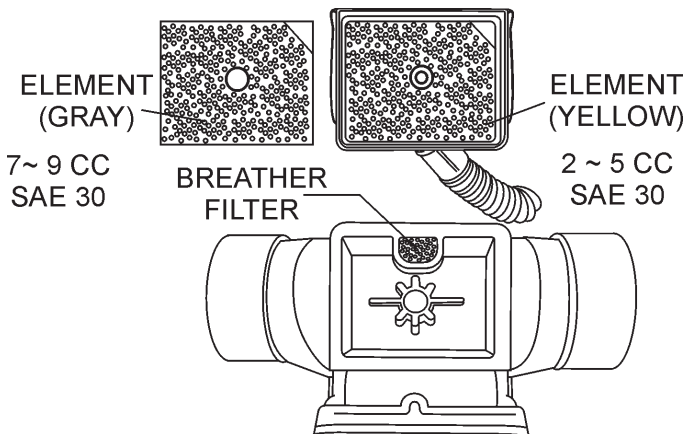

Figure 11. Primary Air Filter
- Remove the element from the pre-cleaner (Figure 11) at the top of the crankcase (body side) and clean it with cleaning oil (kerosene). Check daily if rammer is used in a dusty area.